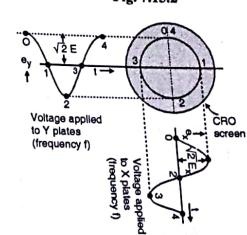

Fig. 7.13.3
- (ii) With equal voltage and 90° phase difference In this case, on CRO screen we get a circle as shown in Fig. 7.13.3.